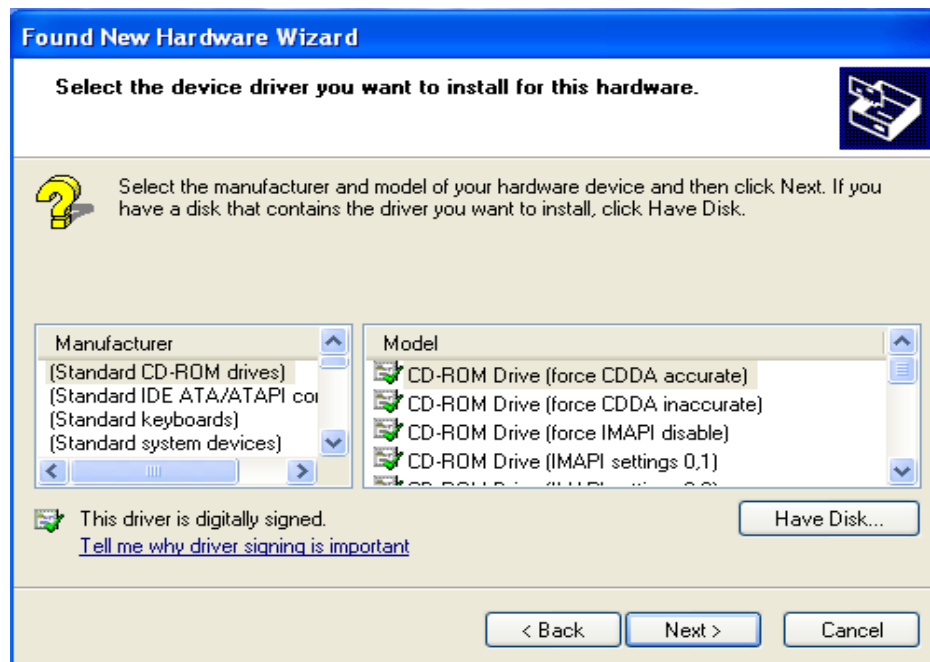

Figure H-6. Select device driver window
- Hardware Type Window appears, Select **Show All Devices** option, and click **Next** button. Click **Have Disk** button when Select device driver window appears (Figure H-6).